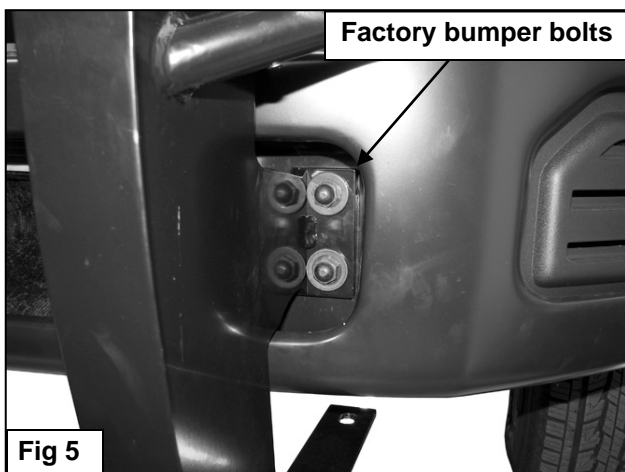

Fig 5
5. Once the bumper has been safely supported, remove the (4) factory bumper bolts, **(Figure 5)**. **NOTE:** Bumper bolts are held in place by thin metal retaining clips. Discard the clips and remove the bolts. With assistance, position the Grille Guard up to the mounting location on the front bumper. Line up the (4) holes in the Grille Guard mounting surfaces with the factory bumper mount holes. Make sure there is a minimum of 1/8" clearance between the top and bottom of the mounting tabs on the Grille Guard and the opening in the bumper. Secure the Grille Guard to the vehicle using the factory bolts and double nut plates, **(Figure 5)**. Check bumper alignment and temporarily tighten the (4) bolts at this time. **NOTE:** It may be necessary to loosen and readjust the bumper once the Grille Guard has been installed.